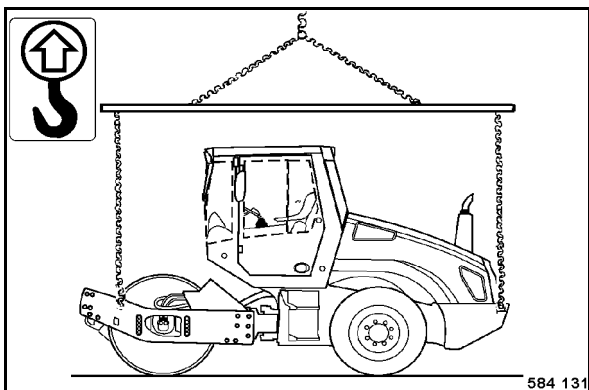

Fig. 117
- For lifting use the four lifting eyes (Fig. 117) and appropriate lifting gear.